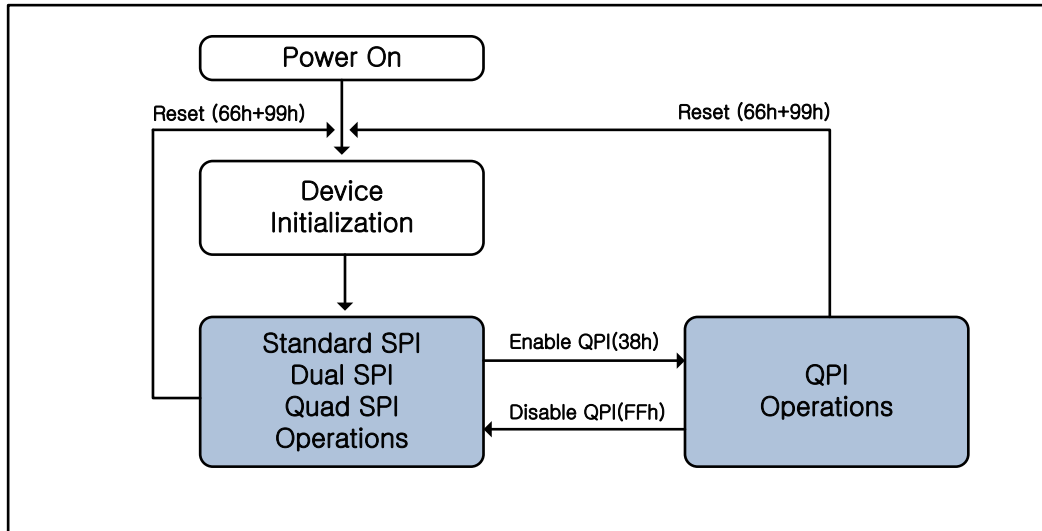

Figure 3. SPI / QPI Operation Diagram of FM25M08A
The FM25M08A supports Quad Peripheral Interface (QPI) operation when the device is switched from Standard/ Dual/ Quad SPI mode to QPI mode using the “Enable QPI (38h)” instruction. To enable QPI mode, the non-volatile Quad Enable bit (QE) in Status Register-2 is required to be set. When using QPI instructions, the DI and DO pins become bidirectional IO0 and IO1, and the /WP and /HOLD pins become IO2 and IO3 respectively. See Figure 3 for the device operation modes.